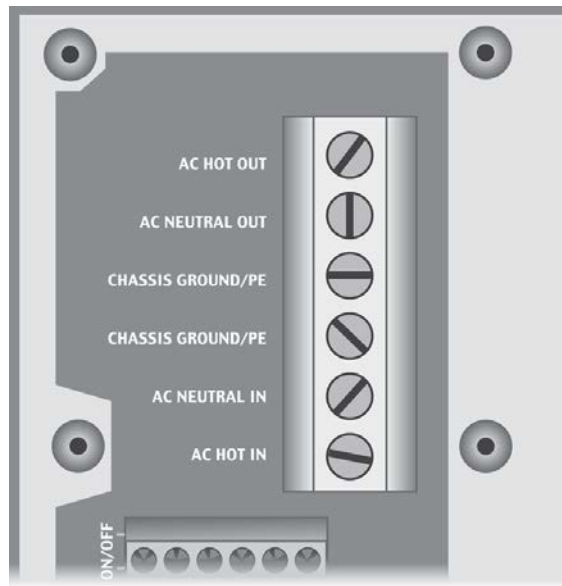

Figure 3 AC Terminals
4. Using a DVM or voltmeter, verify 120 Vac (or appropriate voltage) between the AC HOT OUT and AC NEUTRAL OUT terminals. (See Figure 3 for AC terminals.) The inverter is working correctly if the AC output reads within 10% of 120 Vac or the programmed output voltage.